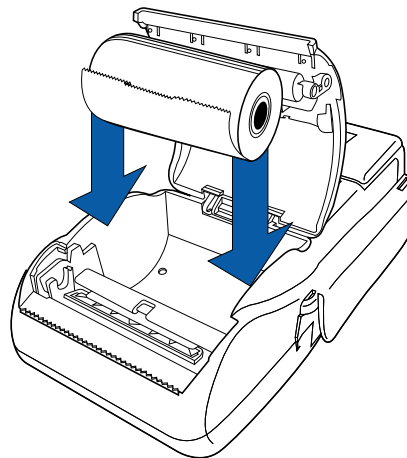

Figure 14 Loading Paper Roll
- 5 Hold the roll so the paper feeds from the *bottom* of the roll when the terminal is inverted (see Figure 14).